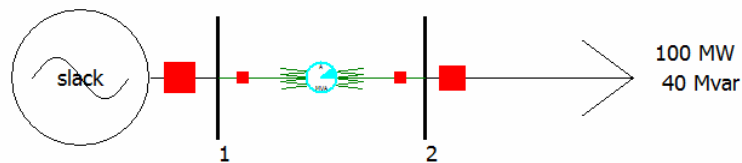

FIGURE -3
- (a) Draw the oneline diagram of the system in the PowerWorld Simulator, using the procedures described in Experiment 1. The system schematic should look like the one shown in Figure-3.